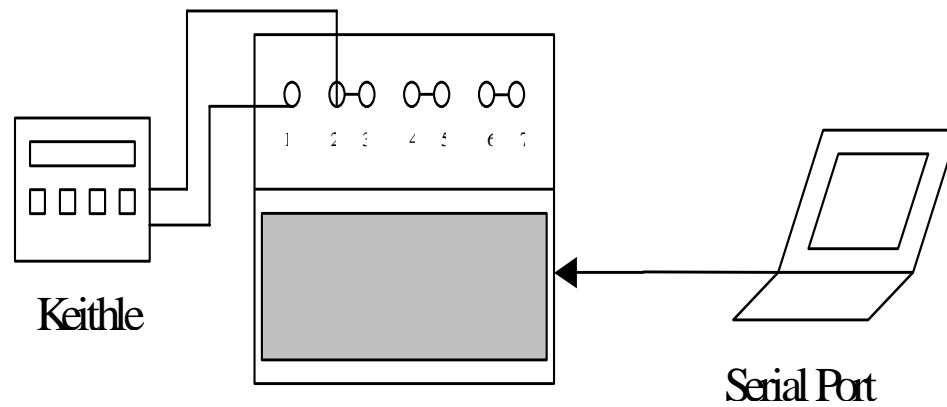

Figure 2.1: Resistance Measurement Equipment Set Up.
5. Setup equipment as shown in Figure 2.1. Turn on UUT and allow sufficient time to warm up.